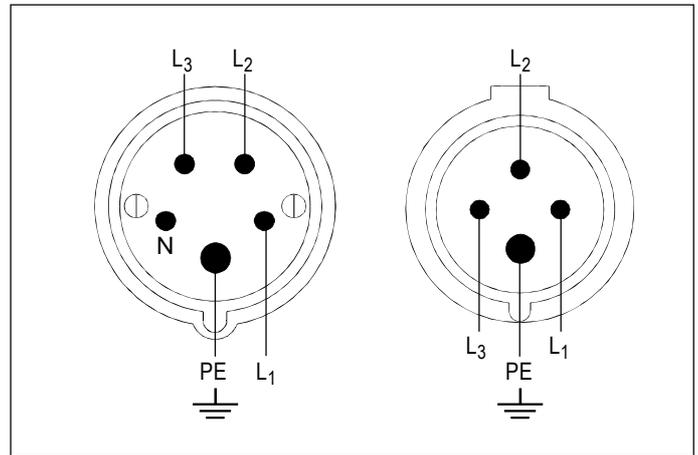

Fig. 6
- Yellow-green lead = protective earth conductor (PE). The other conductors, L1, L2 and L3, are connected to three phases of the mains plug (Fig. 6). The phase sequence is not important.